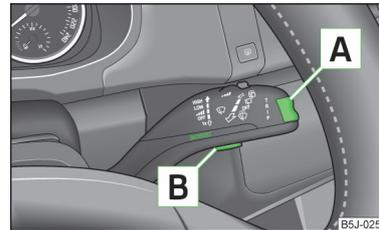

Fig. 24
- » Press and hold rocker switch **A** » Fig. 24 to activate the **MAIN MENU**.
- Warning messages shown in the information display must be confirmed by pressing button **B** briefly » Fig. 24 to call up the main menu.
- Warning messages shown in the MAXI DOT display must be confirmed with button **B** » Fig. 24 on page 33 to call up the main menu.